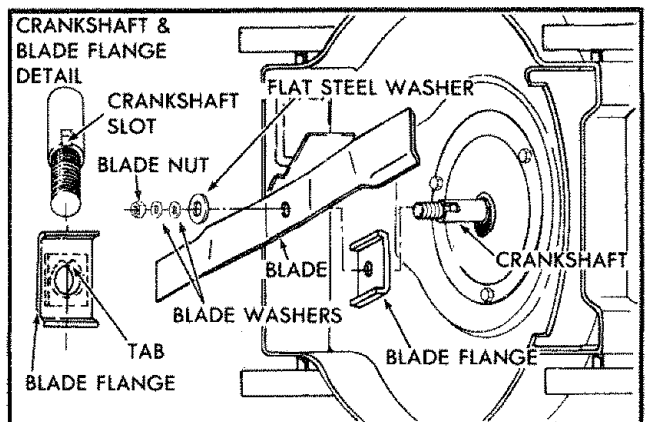

FIG. 19
**NOTE:** Always check the blade flange when changing the blade to be sure tab has not been damaged (See Fig. 19).
5. Put the blade flange on the engine crankshaft with the tab in the slot of the crankshaft (See Fig. 19).
6. Put the blade on the crankshaft as shown in (Fig. 19). Be sure the word "TOP" (stamped in the blade) is toward the engine.
7. Install the flat washer, two (2) formed washers and blade nut as removed above.